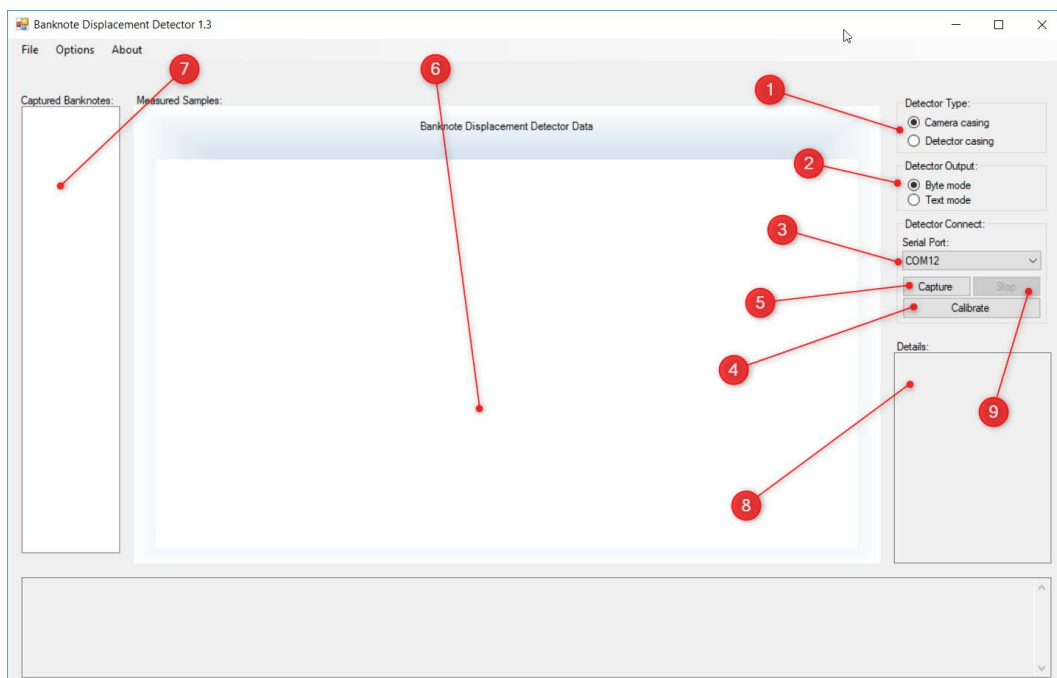

Figure 88: Flutter Tool - Start Screen
1. Select type of Flutter Detector, see Figure 88 (1)
2. Select COM port, Figure 88 (3)
3. Start calibration, Figure 88 (4)
4. Capture Data, Figure 88 (5)